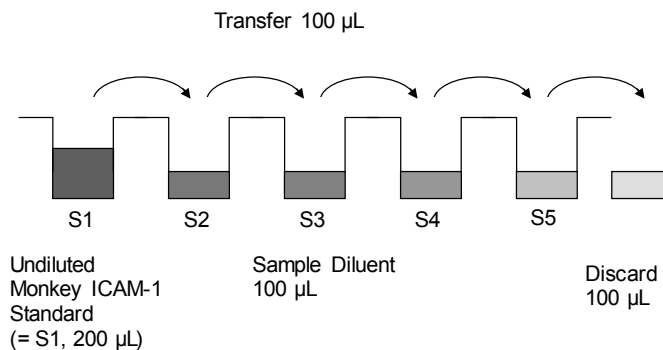

Fig. 6 Dilute standards - microwell plate
3. Standard dilution on the microwell plate (Alternatively the standard dilution can be prepared in tubes - see "External standard dilution" on page 3): Add 100 µL of Sample Diluent in duplicate to standard wells B1/2-E1/2, leaving A1/2 empty. Pipette 200 µL of undiluted standard (concentration = 100 U/mL) in duplicate into well A1 and A2 (see Table 1). Transfer 100 µL to wells B1 and B2. Mix the contents of wells B1 and B2 by repeated aspiration and ejection, and transfer 100 µL to wells C1 and C2, respectively (see Figure 6). Take care not to scratch the inner surface of the microwells. Continue this procedure 2 times, creating two rows of monkey ICAM-1 standard dilutions ranging from 100.0 to 6.3 U/mL. Discard 100 µL of the contents from the last microwells (E1, E2) used.